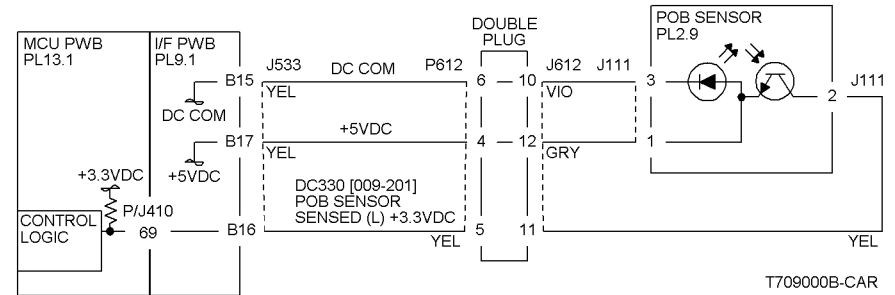
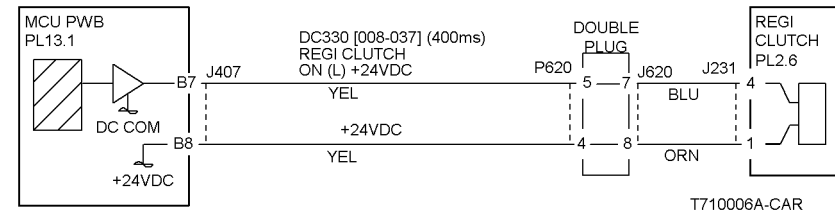

Figure 1 POB Sensor CD
Figure 2 Registration Clutch CD
- Ensure that the connectors shown in the circuit diagrams (Figure 1, Figure 2) are securely connected and that the wires are not damaged.